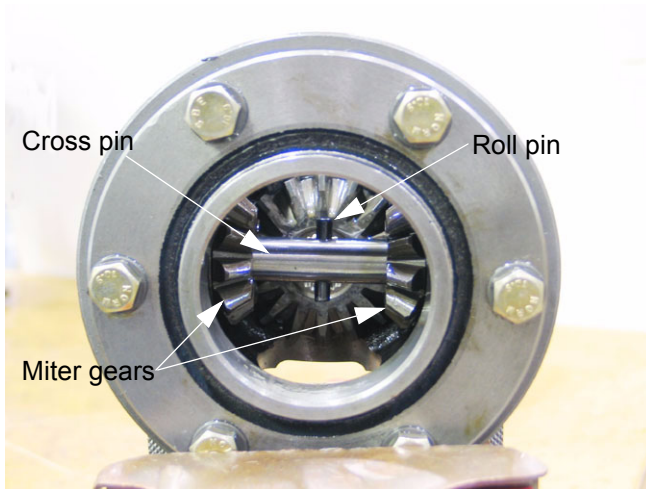

Figure 9.25
9.25. Drive the roll pin from the cross pin that the miter gears ride on using a flat-nosed drift. See Figure 9.25.